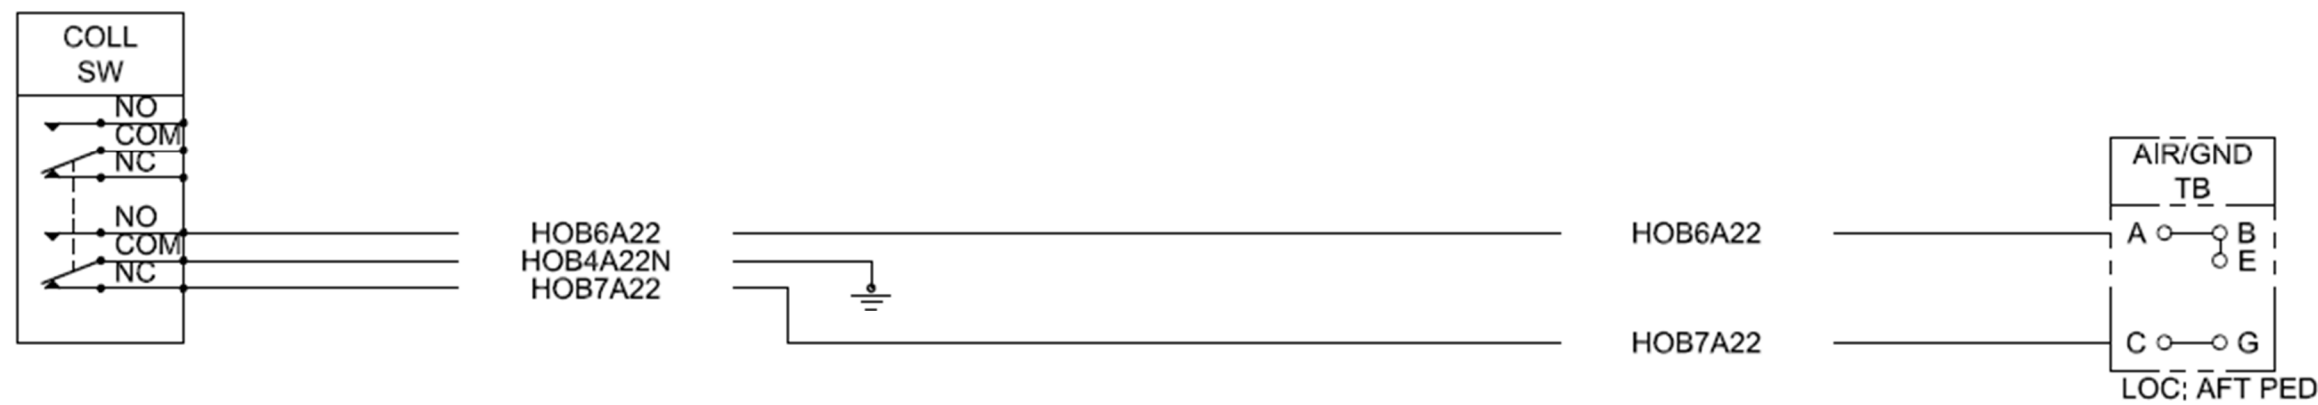

Figure 3 – Collective Switch Installation Wiring Diagram (-013/-017 Configuration)
2. Install wiring in accordance with Figure 3, as applicable.
2. Ensure that all cables are properly secured in accordance with Figure 3.